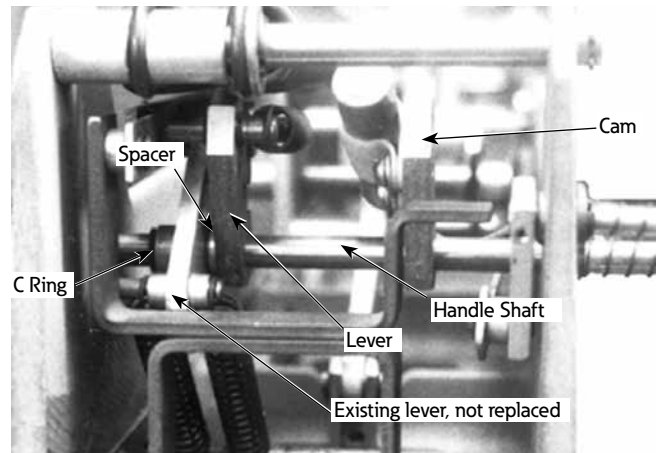

Figure 11. Handle shaft assembly.
8. Slide existing handle shaft from frame, noting position of shaft spacer (Figure 11). Discard shaft, cam, and lever; retain spacer.
11. Slide new shaft into frame keeping orientation the same as found when removing the old one. Slide shaft through frame, new cam, new lever, old spacer, remaining old lever, new C ring (Item 19), and frame (Figure 11).